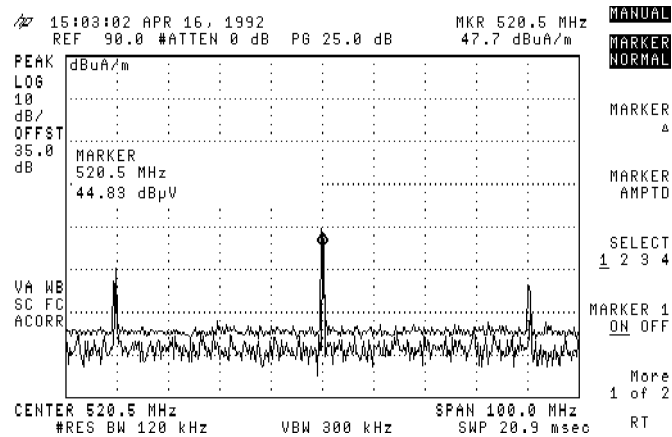

Figure 3-7. Reading the Probe's Output in $\text{dB}\mu\text{A/m}$
31. Position the marker on the desired signal. Read the field strength value in $\text{dB}\mu\text{A/m}$ in the upper-right corner of the CRT. See Figure 3-7. Note the active function area displays only $\text{dB}\mu\text{V}$.